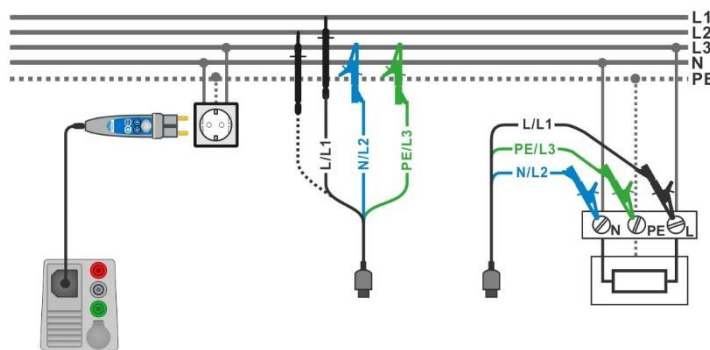

Figure 7.135: AUTO TN measurement
- › Connect 3-wire test lead or Plug commander to the object under test, see **Figure 7.135**.